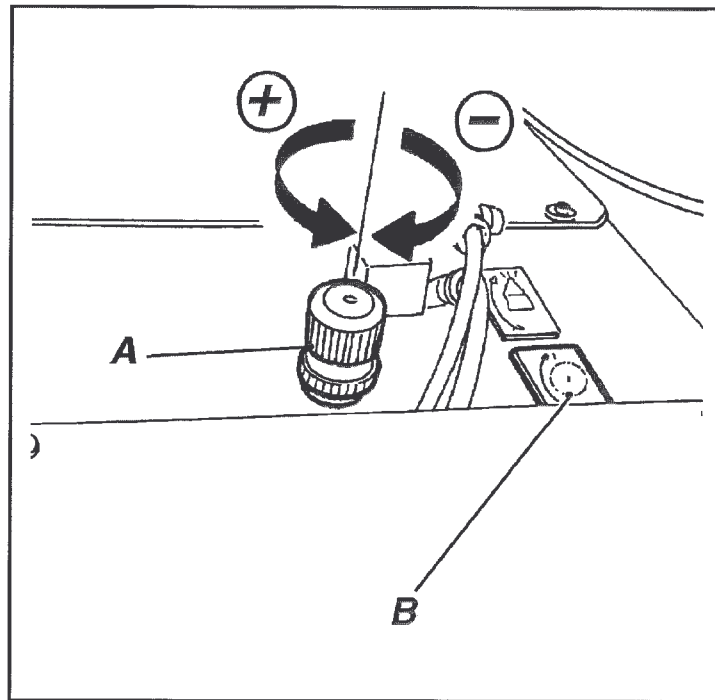

Fig. 09-06
**9.5 REGOLAZIONE VELOCITA' USCITA LAMA (Fig. 09-06)**